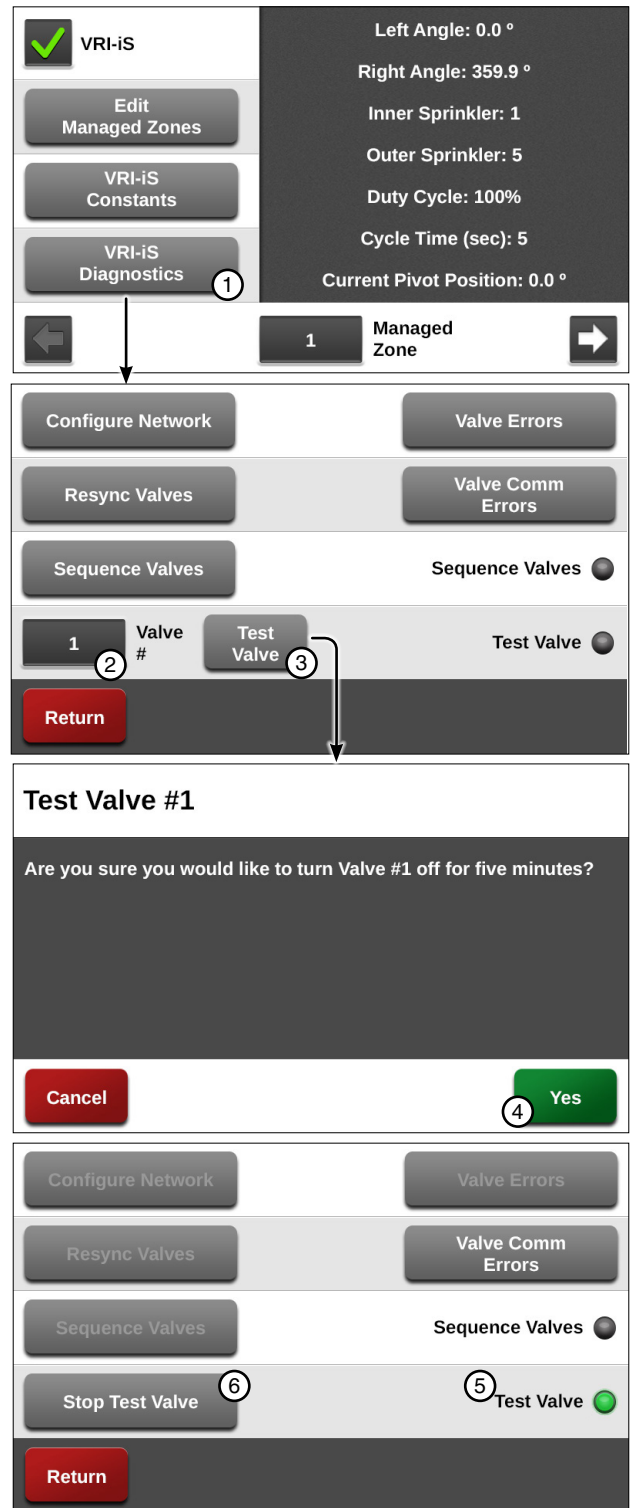

Figure 181-1 1. VRI-iS Diagnostics
1. Push **Menu**, **Programs**, and **VRI** to display the VRI-iS screen. Refer to Figure 181-1.